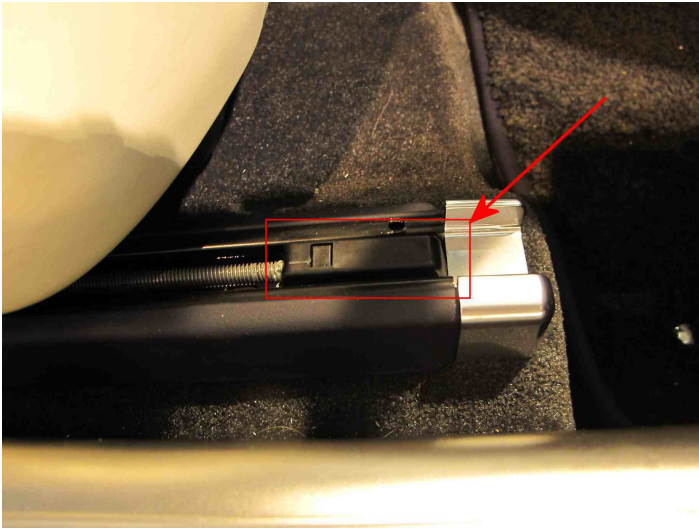

Figure 24
**NOTE:** The front seat bolt fixing covers (Figure 24) should be discarded once removed as new parts are supplied as part of this procedure.